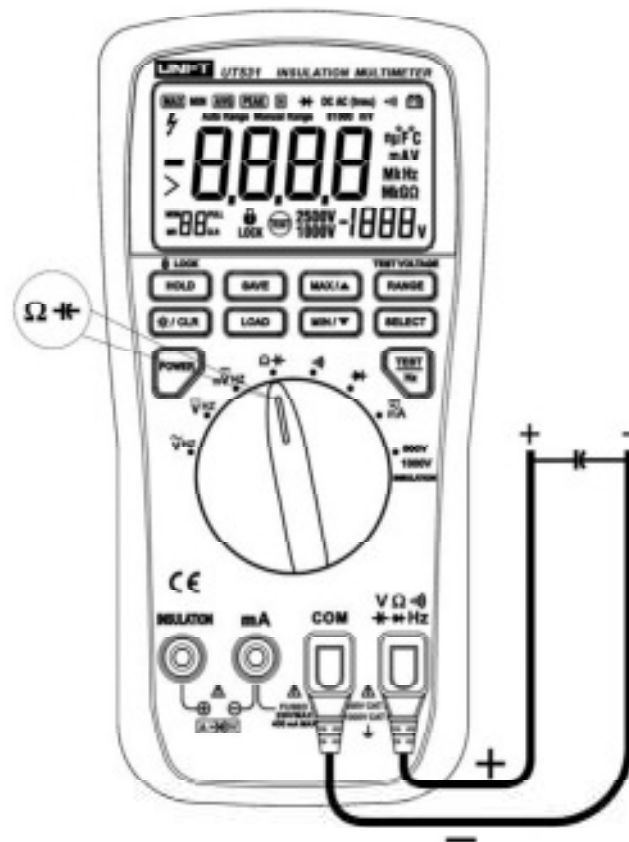

Figure 9. Measuring Capacitance
- *Measuring Capacitance* (see figure 9)